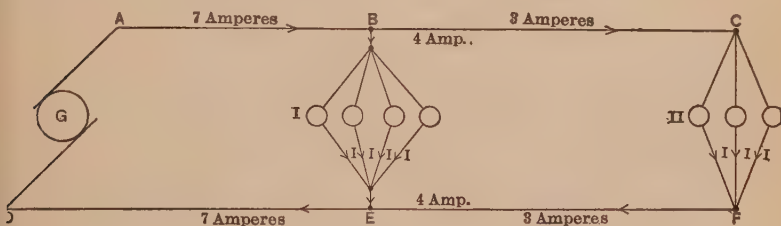
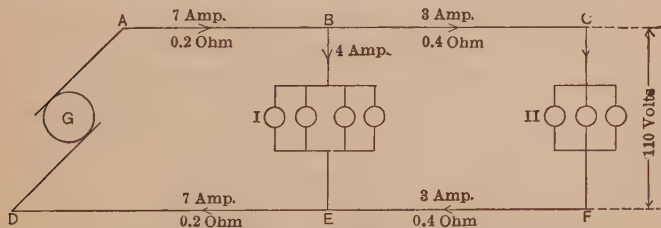

FIG. 63.
FIG. 69.
In Fig. 63, the sections *AB* and *DE* of the line are nearest the generator and thus have to carry enough current to supply both groups of lamps. Since Group I takes 4 amperes and Group II takes 3 amperes the generator must supply 7 amperes, and sections *AB* and *DE* of the line must carry 7 amperes.
Figs. 63 and 69 are identical except that in Fig. 69 the resistance of the line wire is known and the voltage across Group II is given as 110 volts. It is required to find the voltage across the generator and Group I.
**First Step. Current Distribution.** Note that as each lamp takes 1 amp., the current distribution in Fig. 69 is the same as in Fig. 63. That is, between Groups I and II, the line carries 3 amp. Between the generator and Group I, the line carries 7 amp. It is also essential to note that in all problems of this type we have **started by finding the current distribution.**